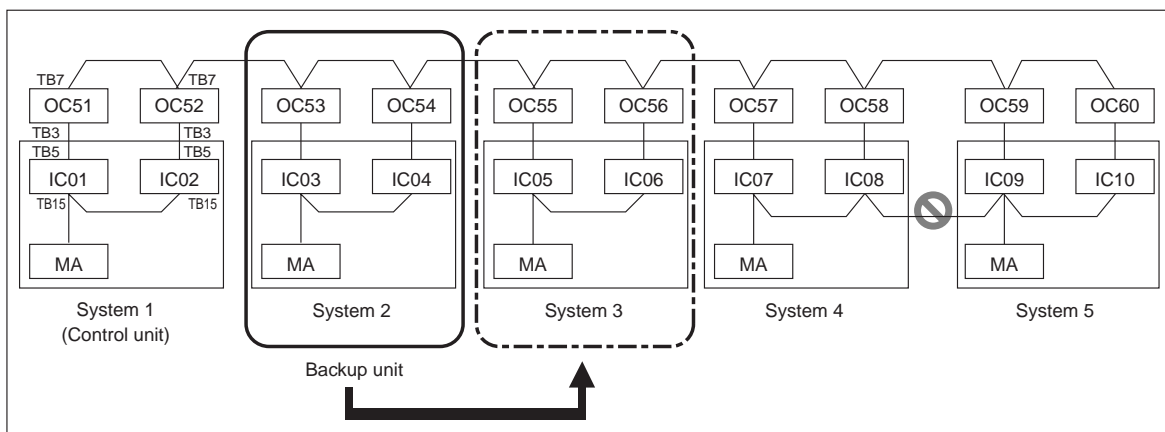

Figure 1 Sample 20HP system group
- 4) Assign sequential addresses to the units as shown below (Figure 1).
- The unit designated as the control unit (System 1 in Figure 1) sends command signals to other units in the group to start or stop, and rotates the backup unit every 480 hours.
(e.g., System 2 → System 3 → System 4 → System 5 → System 1 in Figure 1 below)